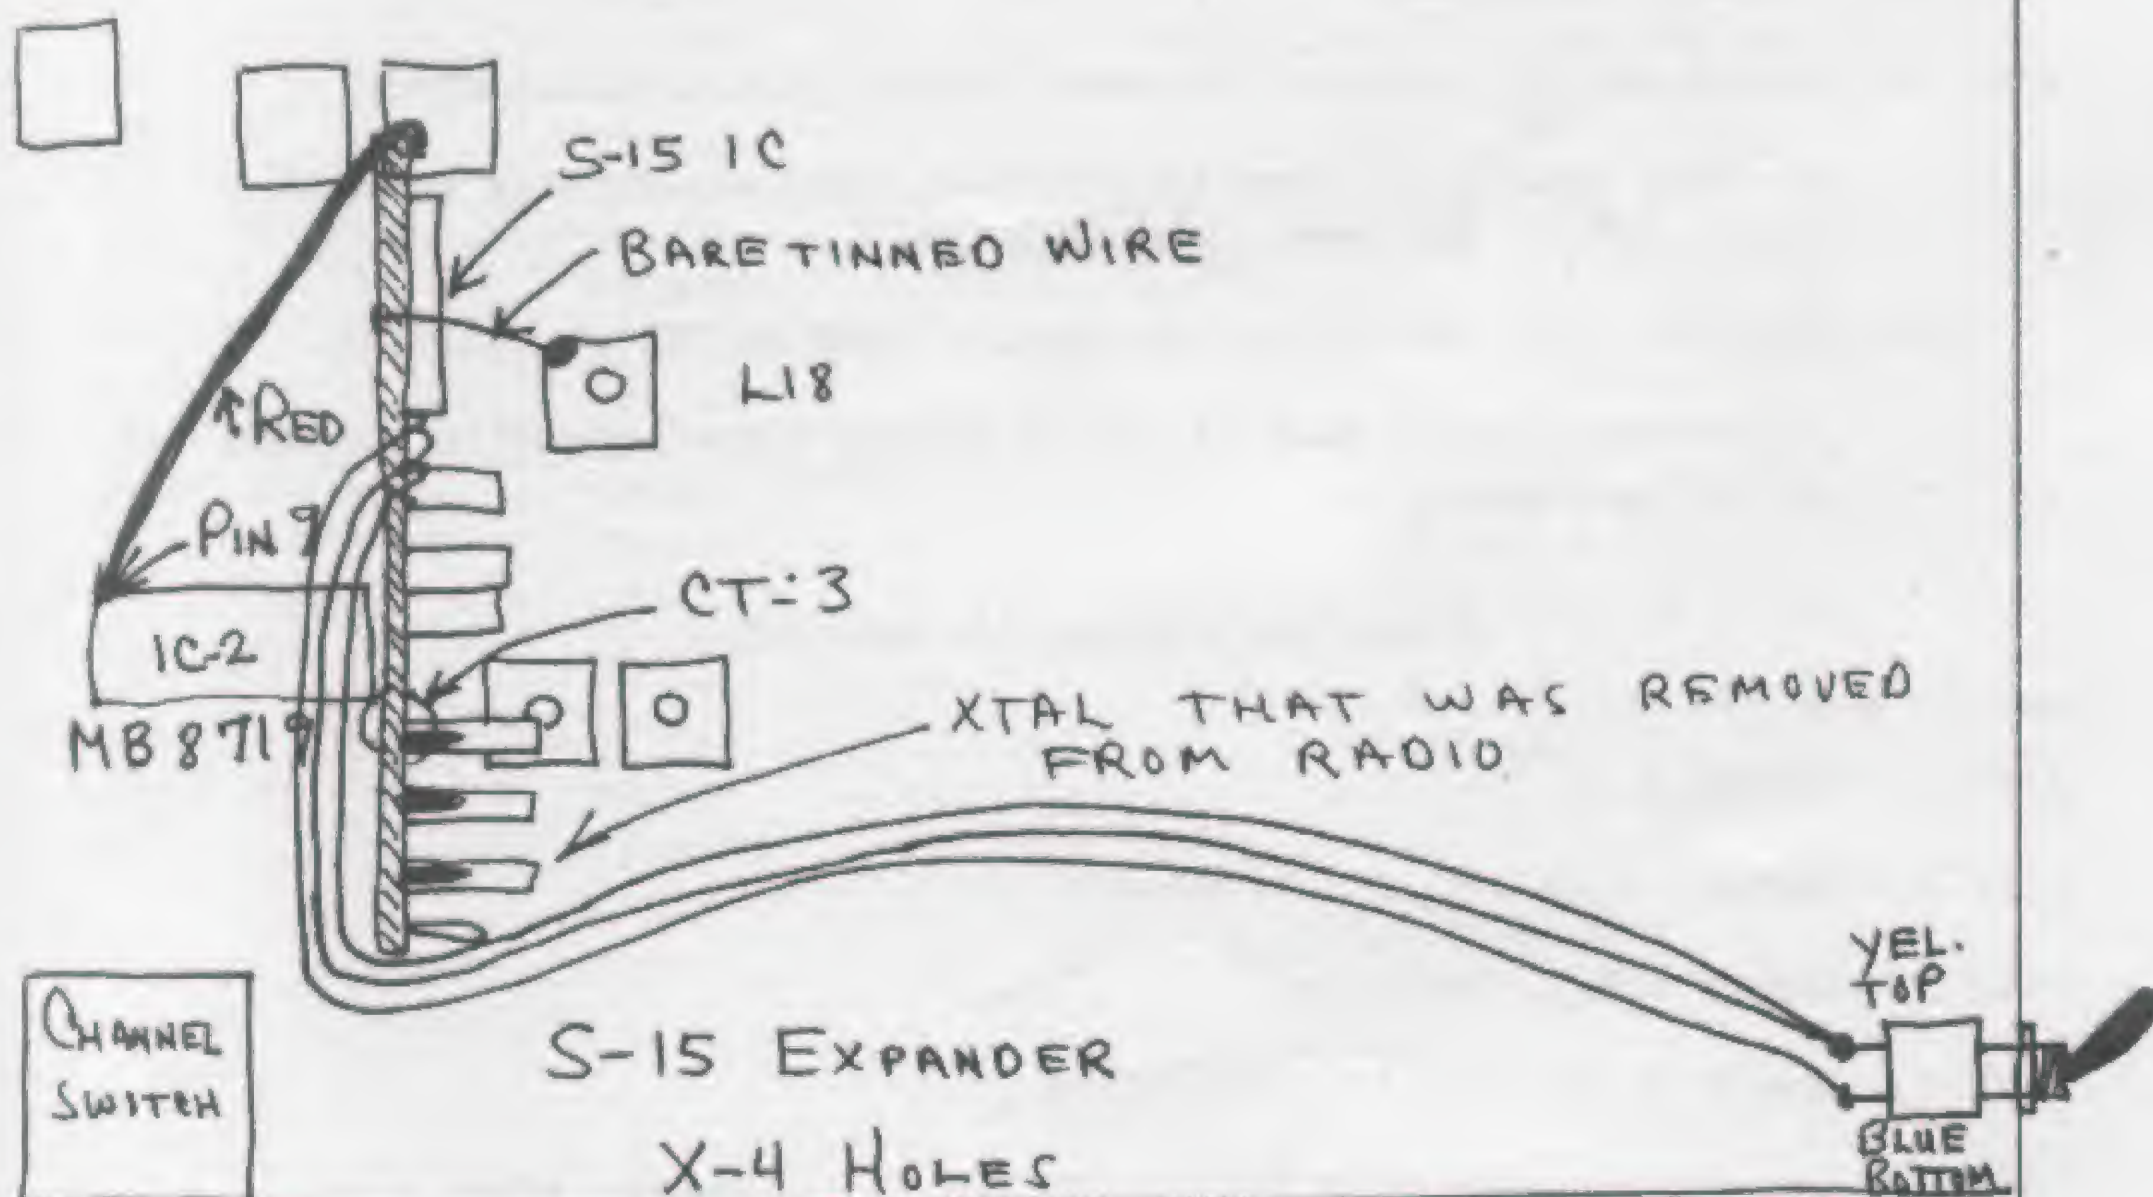

FIGURE 1
- STEP 2. Locate PLL and remove cover in Fig. 1.
- STEP 3. Locate D858 in Fig. 1 and cut pin 19 close to PC Board as indicated in Fig. 2.
- STEP 4. Solder a 1,000 Ohm $\frac{1}{2}$ watt resistor from pin 19 to supply line in Fig. 1.